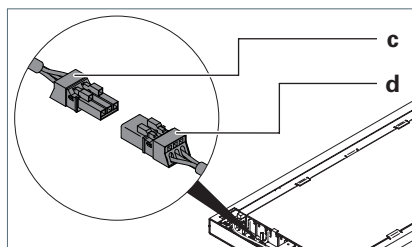

Fig. 14: Connecting the light head, Part 2.
- Connect the socket **c** to the plug **d** at the light head, see Fig. 14.